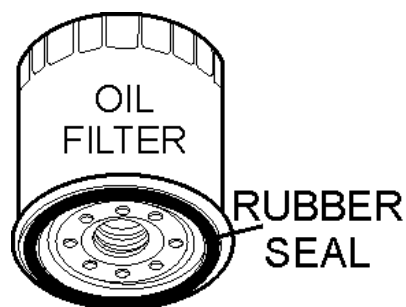

Figure 36. Oil Filter
1. Replace the engine oil filter (Figure 36) every 200 hours.